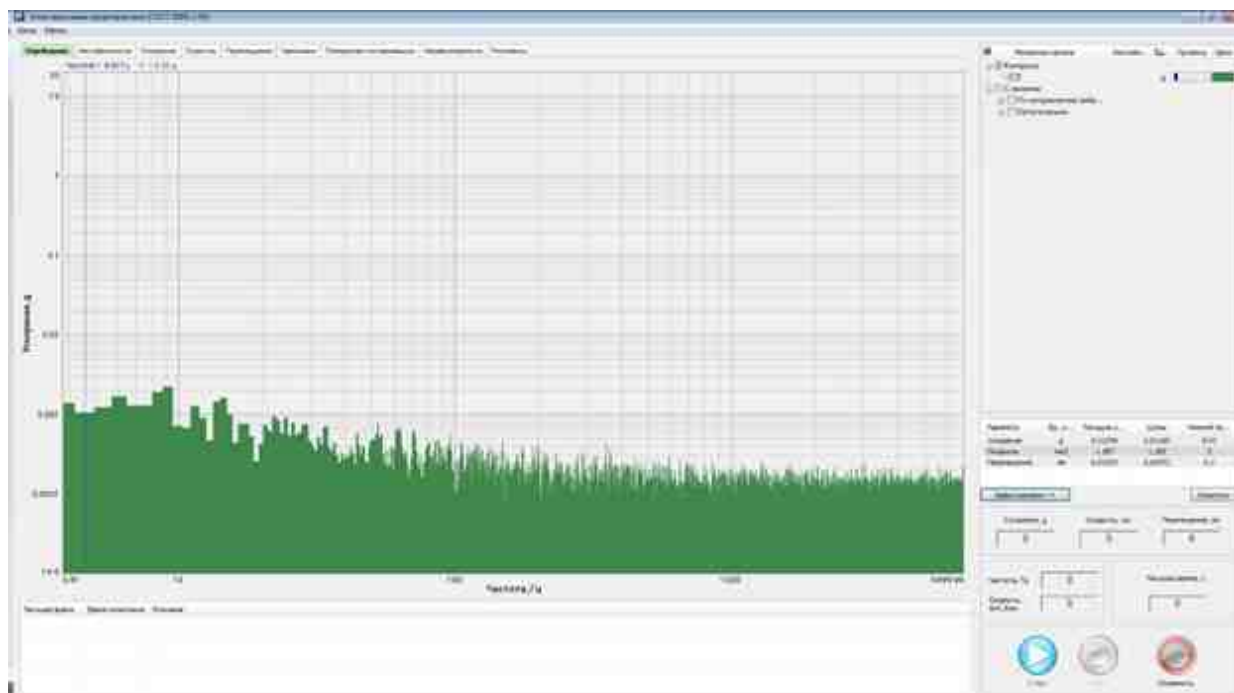

Fig. 6.12 Shaker Validation program, Noise tab
4. Click the Fix button; lower limits of the *vibration* acceleration, vibration velocity, and Displacement will be calculated (Fig. 6.12).